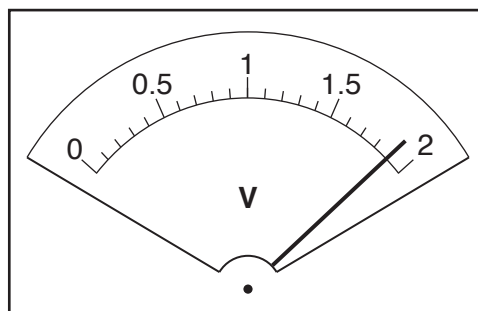

**Fig. 2.1**
They are using the circuit shown in Fig. 2.1.
- (a) On Fig. 2.1, draw the symbol for a voltmeter correctly connected to measure the p.d. across wire **X**. [1]